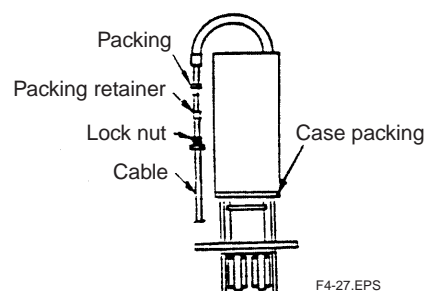

Figure 4.27
3. While pushing the cable into the receiver, slowly lift up the cover receiver. After opening about 5 cm, return it to its original position. The packing and packing retainer will come out. (Figure 4.27)